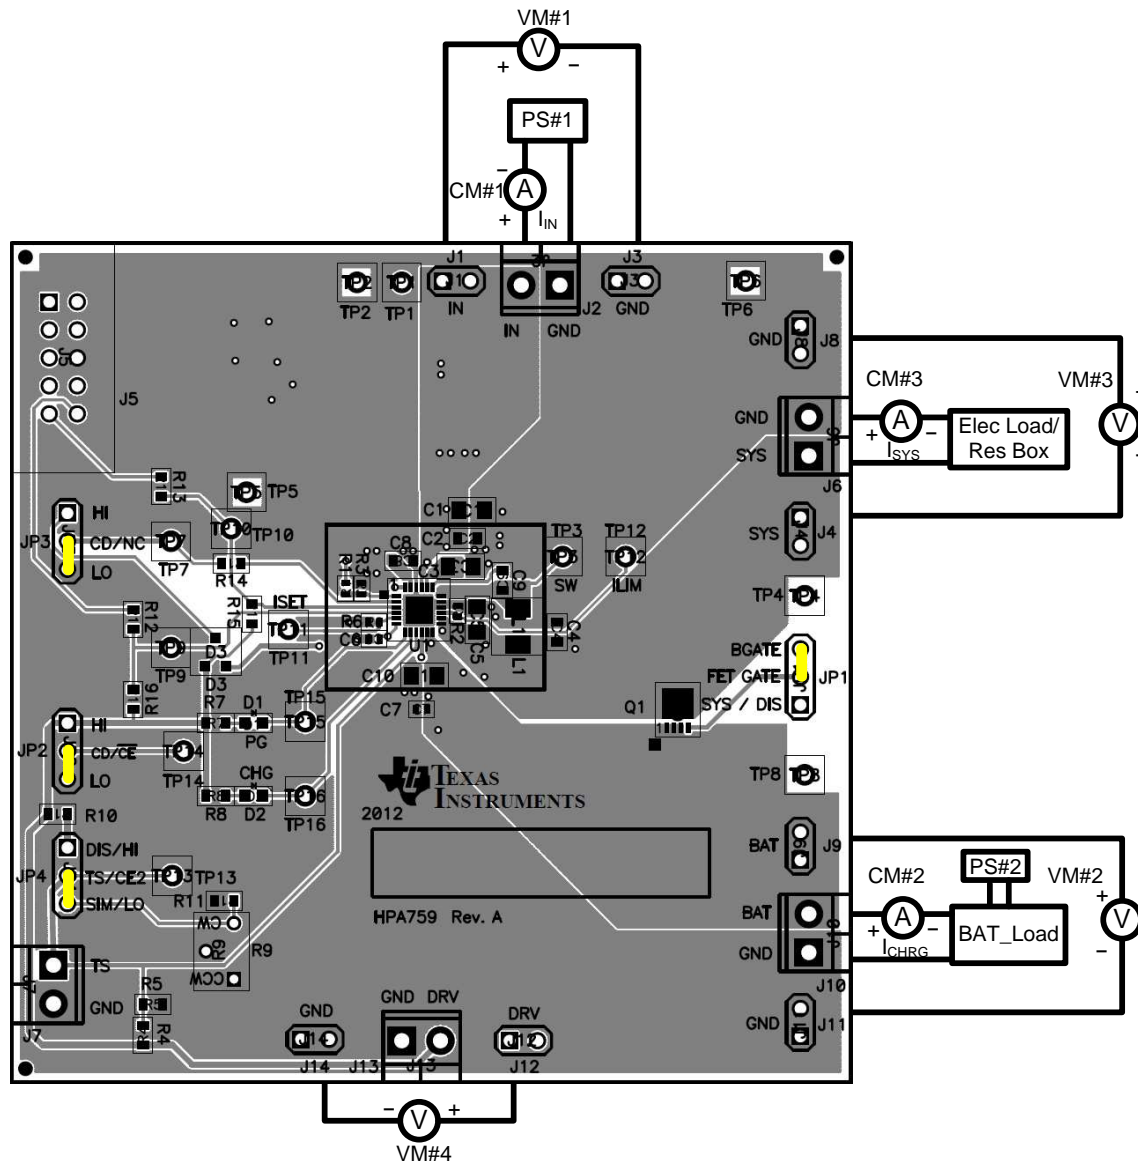

Figure 3. Original Test Setup for bq24278 EVM (HPA759)
9. After the preceding steps are accomplished, the test setup for HPA759 is as shown in Figure 3